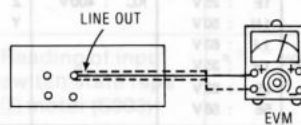

Fig. 4
1. Test equipment connection is shown in Fig. 4.
3. Adjust TAPE ①: VR1 (L-CH) {VR2 (R-CH)} and TAPE ②: VR3 (L-CH) {VR4 (R-CH)} so that the output is within the standard.